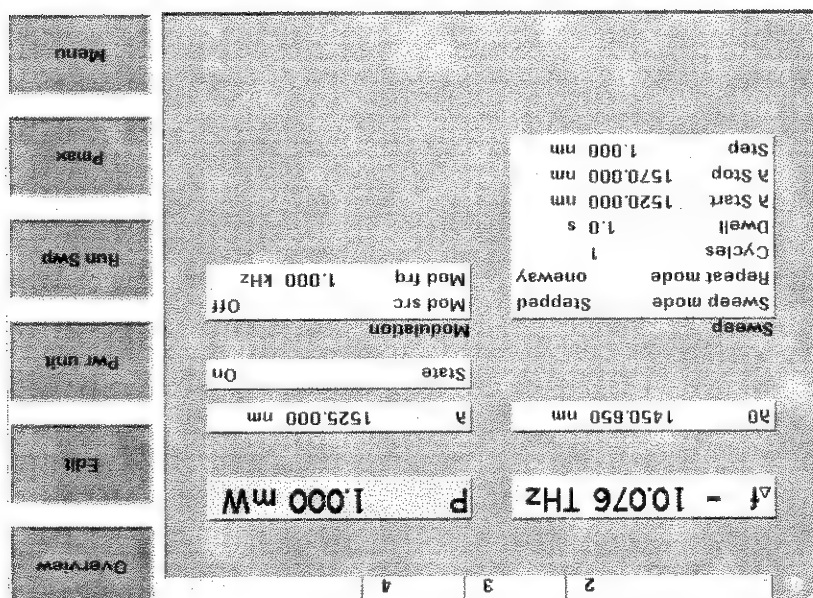

Figure 67 Setting a Relative Wavelength
- 4 Move to <Offset>, by using the cursor key, press *Enter*, and press *Close*. You see the screen in Figure 67.